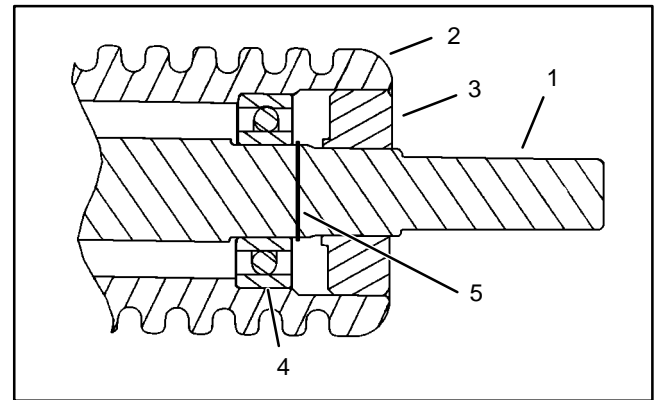

Figure 28
1. Pressing against the outer race of the bearing only, drive one bearing all the way into either end of the roller body (Fig. 28).
4. Slide the remaining bearing onto the roller shaft. Pressing against the outer race of the bearing only, drive the remaining bearing all the way into the end of the roller body (Fig. 28).